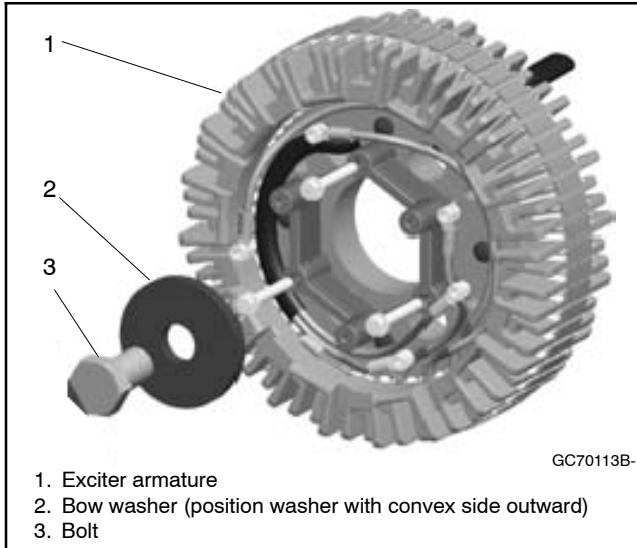

Figure 11-25 Installing Exciter Armature Hardware
27. Install exciter armature hardware with bow washer (convex side outward) and torque to specifications. See Figure 11-25.